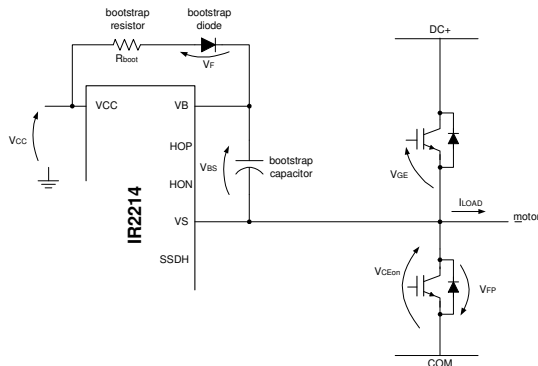

Figure 19: Bootstrap Supply Schematic
In the high side circuit, the desaturation biasing current may become relevant for dimensioning the bootstrap capacitor (see Fig. 19). In fact, a pull up resistor with a low resistance may result in a high current the significantly discharges the bootstrap capacitor. For that reason, the internal pull up resistor typical value is of the order of 100 k $\Omega$ .
The  $V_{BS}$  voltage provides the supply to the high side driver circuitry of the gate driver. This supply sits on top of the  $V_S$  voltage and so it must be floating. The bootstrap method is used to generate the  $V_{BS}$  supply and can be used with any of the IR211(4,41)/IR221(4,41) drivers. The bootstrap supply is formed by a diode and a capacitor as connected in Fig. 19.
**Voltage Ripple:** There are three different cases to consider (refer to Fig. 19).
**Bootstrap Resistor:** A resistor ( $R_{boot}$ ) is placed in series with the bootstrap diode (see Fig. 19) in order to limit the current when the bootstrap capacitor is initially charged. We suggest not exceeding  $10\ \Omega$  to avoid increasing the  $V_{BS}$  time-constant. The minimum on time for charging the bootstrap capacitor or for refreshing its charge must be verified against this time-constant.